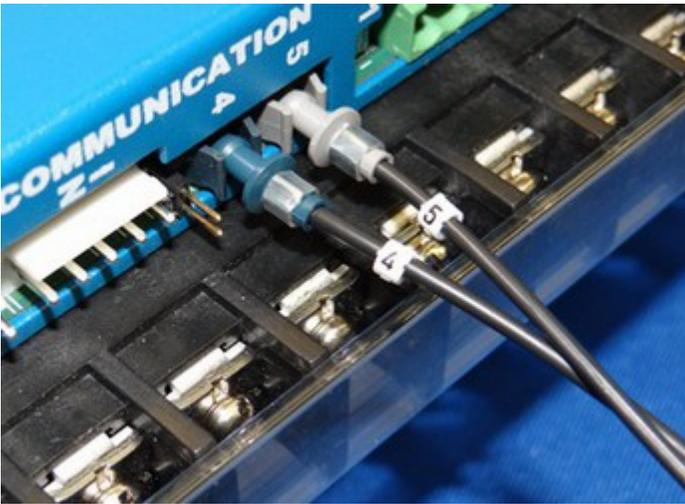
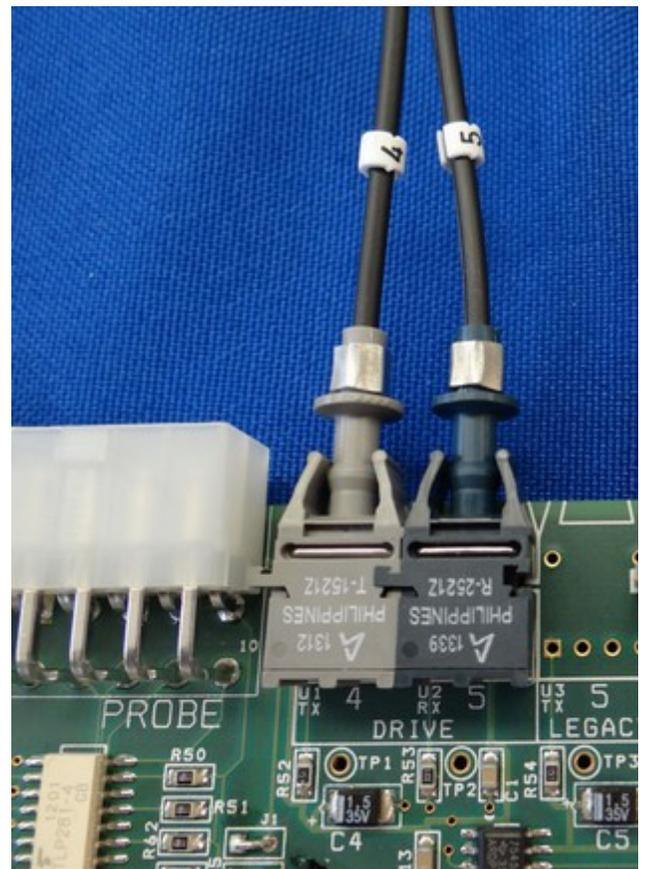

Figure 2.3.6
Figure 2.3.7
2. On the **last axis**, connect fibers 5 and 4 (PN 12832) from AC/DC to the MPU11. When connecting fibers match the colors and numbers. (*Ex. gray connector to gray socket, fiber 5 to socket 5*) as shown below in Figures 2.3.6 and Figure 2.3.7.